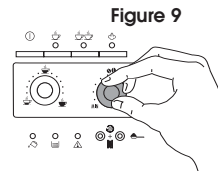

Figure 9
1. Turn the espresso / coffee flavor dial (Figure 9) to set the desired taste of your espresso/coffee from regular, strong to extra strong.